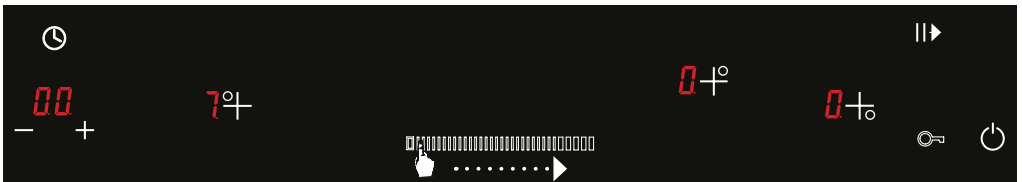

Figure 15
2. Set the temperature level to the desired level from 1 to 9 using the slider. (See Fig. 15)